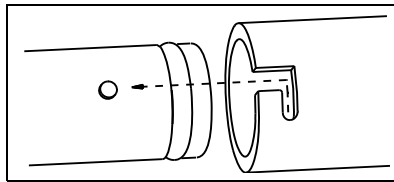

Fig. 12
22. Press distal hub of catheter contamination shield over assembly cap. Twist to lock (refer to Fig. 12).